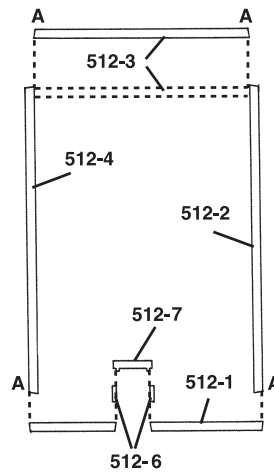

Fig. 1
2. Align Chimney Backs with molded-in chimney fronts on Side Walls (514-2 and 514-4) and glue in place (Fig. 1 and 1a). When glue is set, sand tops of Chimneys flat.
1. Butt Back Wall (514-3) against alignment pins on Side Walls (514-2) and (514-4), keeping bottom edges as level as possible (Fig. 1).